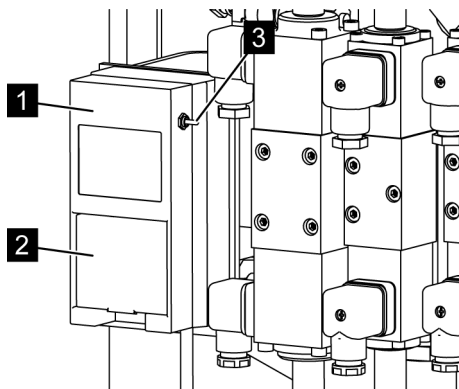

Fig. 81: Charging station
4. → Remove the charged battery (Fig. 81/2) from the charging station (Fig. 81/1) and insert the empty battery. Make sure that the toggle switch (Fig. 81/3) is in the 'on' position.
*In case of longer downtime, switch the charging device (toggle switch Fig. 81/3) to the 'off' position so that the machine's main battery will not discharge.*